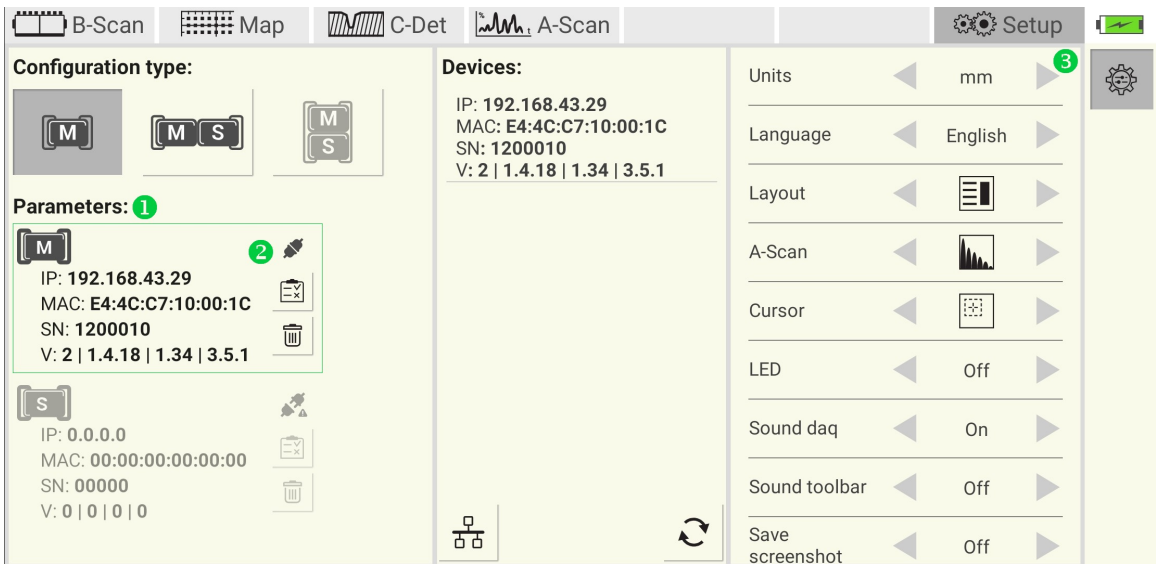

Figure 21: A1040 MIRA 3D connection
After successful connection the panel ① shows parameters of the master device. The indicator ② changes from  to . The battery indicator ③ changes its status from disconnected  to power, Figure 21.